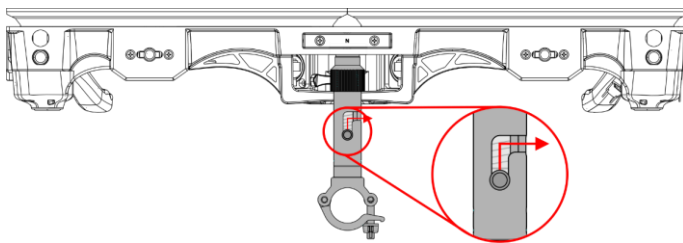

Fig. 36
- 01) Put the stacking bracket in front of the **mounting opening (03)**.
- 02) Press the lever of the stacking bracket forwards and then to the right, as shown in Fig. 36. The top of the stacking bracket locks into the **mounting opening (03)**.